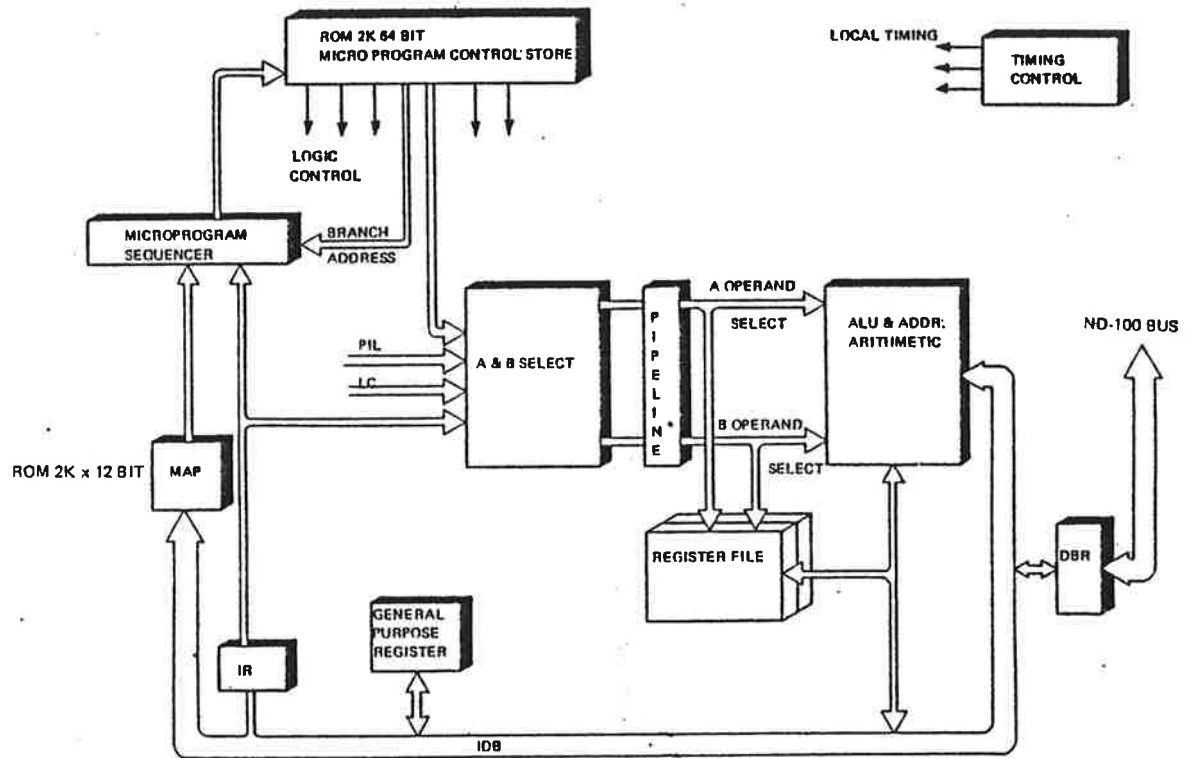

Figure 2.2: Instruction Execution
The instruction to be executed will be loaded into the instruction register (IR) and the instruction map. Refer to Figure 2.2 The lower vector bits of the instruction are taken to IR and the upper operation code bits are taken care of by the map. This is a read only memory (ROM), where each different instruction gives a fixed program address to the microprogram sequencer. Since one machine instruction is executed by a number of instructions residing in microprogram control store, an instruction dependent address should be generated and this is the task of the microprogram sequencer.
Refer also to Figure 2.2